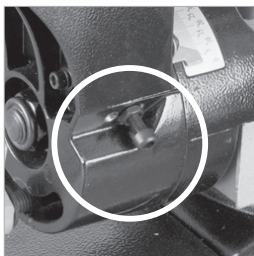

Fig. 18
- Use a Hex Key to adjust the Adjustment Screw in Or out as required. **(Fig. 18)**